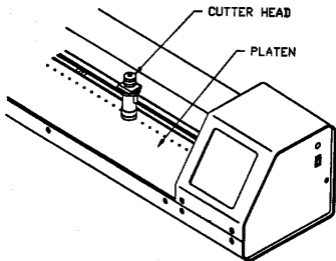

Figure 2-4— Removing Cutter Head From Pen Holder
1. Loosen thumbscrews and remove the **Cutter Head** from the **Pen Holder** and lay it upside down on the **Plotter Platen**. (See Figure 2-4).